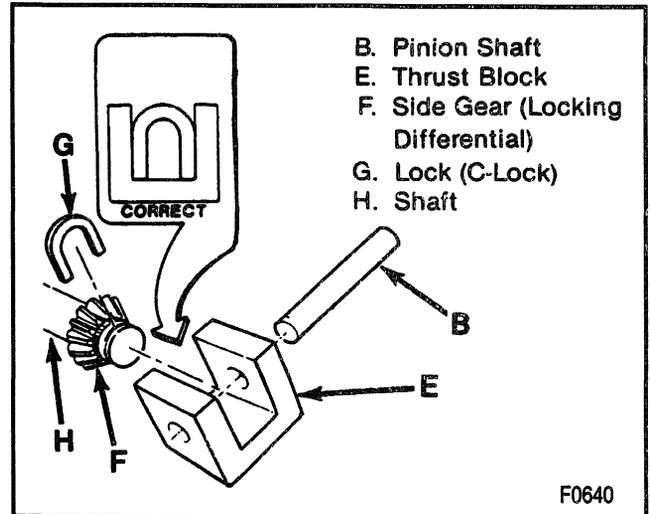

Figure 9—Aligning the Lock
4. Screw (A).
5. Pinion shaft (B).
- With a locking differential, remove the shaft (B) part way, and rotate the case until the pinion shaft touches the housing.
6. Lock (Figure 9).
- Slide the axle shaft into place allowing the splines to engage the differential side gear (F) (Figure 9).
- Place the lock in the position shown in Figure 9. Pull the shaft flange outward to seat the lock in the differential side gear.